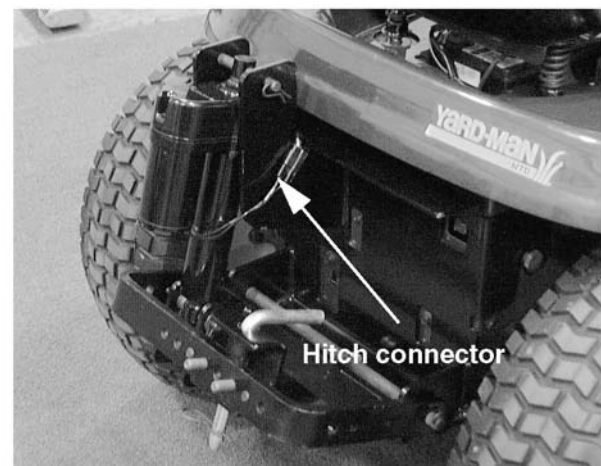

Figure 8-53.
28. Snap the molded plastic plug (coming from the lift motor) into the new sleeve hitch harness female connector at the rear of the tractor. See Figure 8-53.